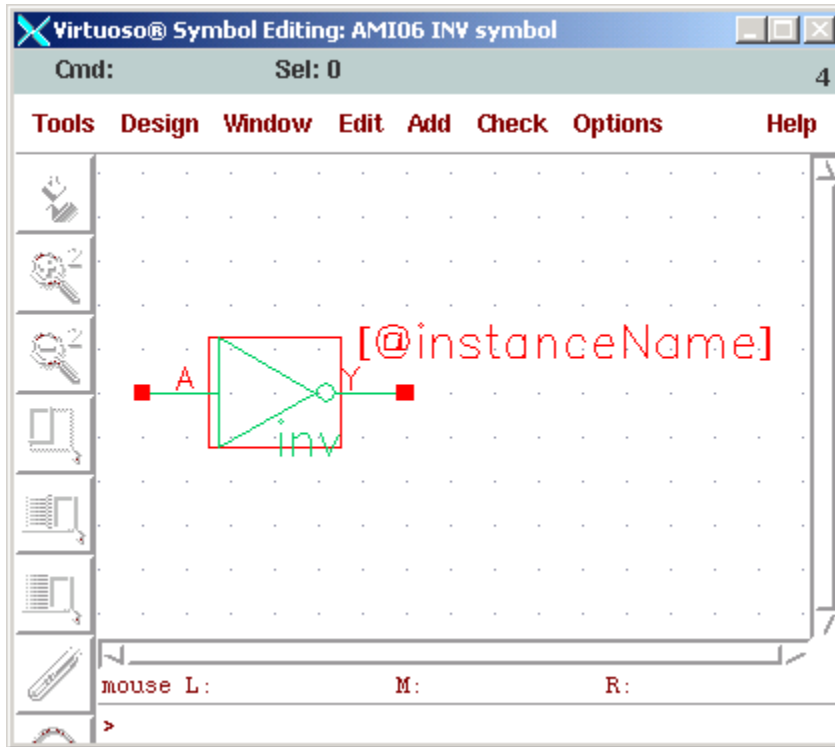
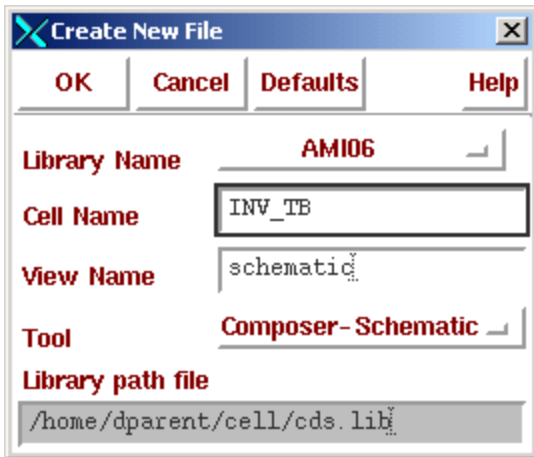

Figure 29: The inverter's symbol.
Figure 30: Creating the inverter test bench.
2. Stamp it down in the symbol editor like in Figure 29.
In the library manager, goto file... new... cell view. A pop-up like Figure 29 should appear. Fill it out exactly like Figure 30 and click on ok. The schematic editor will appear.